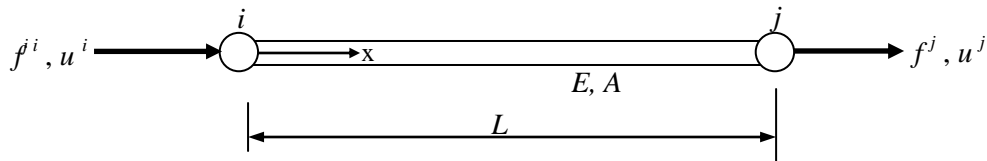

Fig.Q1-1
1. (a) By using the three basic equations in structural mechanics, derive the following element stiffness equation for the case of an axially loaded element as shown in Fig.Q1-1 :